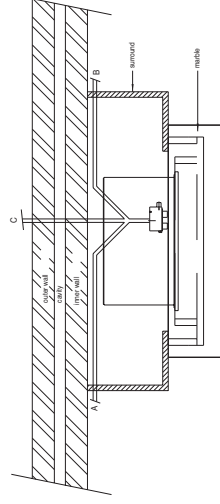

fig. 5
1. Open the ashtray door by pushing on the right side for the Silence/Feeling and on the left side for the Whisper. Remove the frame by loosening the screws A behind the door (see fig. 5). Lift and pull forward when you take it away.